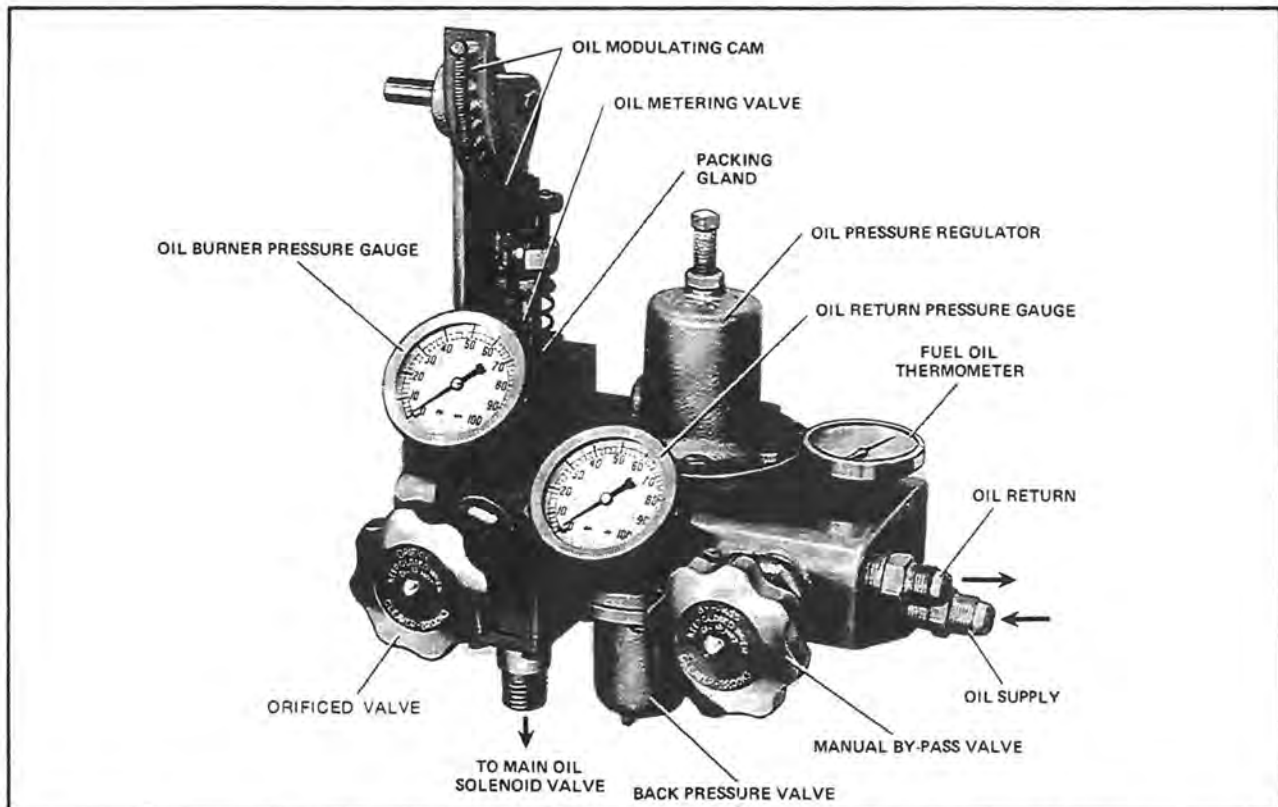

FIGURE 1-10. OIL CONTROL VALVE ASSEMBLY — FOR HEAVY OIL
- (15) In addition to the components of the fuel oil controller mentioned in Section E, the following are used with a heavy oil fired burner (See Figure 1-10).